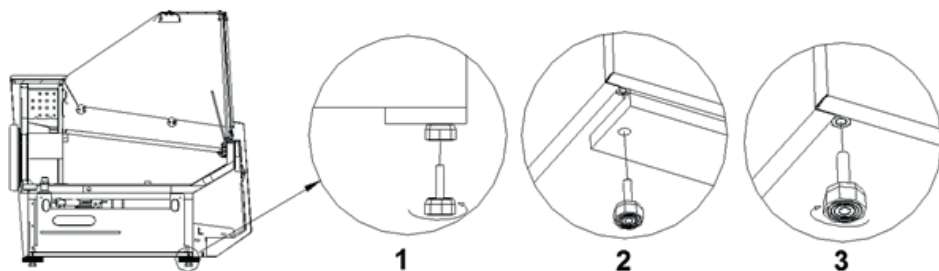

Fig.2 Removing the wooden platform
- Unpack the device and remove the wooden platform from the basis (does not concern moving devices) Fig.2 (p.17)
- Move the casing of lamp conduit to the back of the glass side, in order to hide the conduit coming out of the lamp in the casing and to place it on the internal part of the glass side! (This concerns only “GASTRO” display cabinet) Place universal salad tank in the display cabinet. Place cross-bars under GN containers in module tank, and then place GN containers according to Fig.2 (p.17)